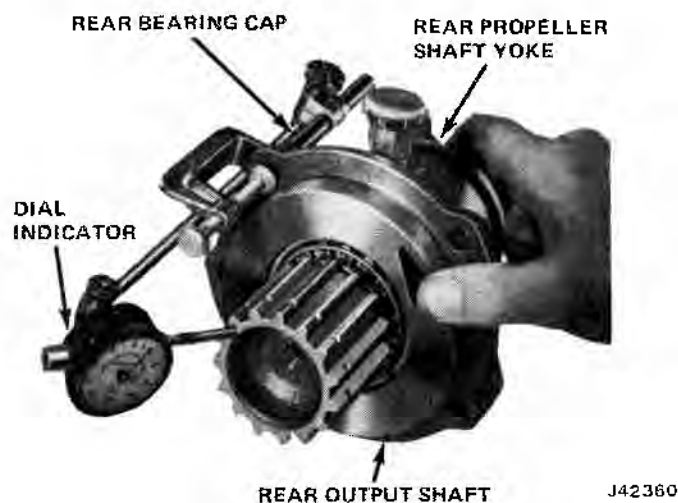

Fig. 8-11 Checking Rear Output Shaft Bearing Adjustment
(1) If removed, install a new speedometer driven pinion bushing using Bushing Installer Tool W-133.
(2) Tap front cone and roller assembly onto output shaft. Slide speedometer gear and original spacers onto output shaft.
(3) Insert output shaft through housing. Place front end of output shaft on a firm surface.
(4) Place rear cone and roller assembly on output shaft.
(5) Tap bearing onto shaft to seat against inner spacers.
(6) Use Driver Tool W-143 to install yoke seal. Install felt seal, propeller shaft yoke, flat washer, and retaining nut. Tighten nut (refer to Torque Specifications).
(7) Measure rear bearing cap assembly end play (fig. 8-11). End play should be 0.001 inch to 0.003 inch. If end play is incorrect, it can be corrected by installing or removing shims adjacent to speedometer drive gear.